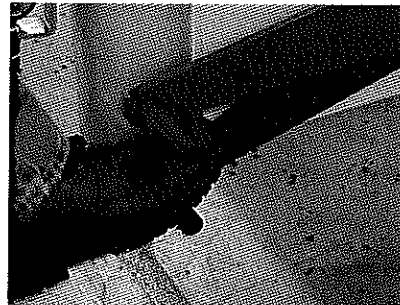

Figure 17
1. Step on Sure-Lock release handle to unlock Sure-Lock force clamp from mainframe. (See Figure 17.)